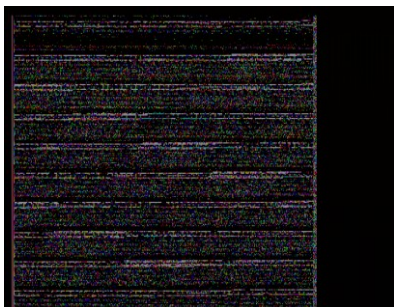

Figure 9: The visual appearance of the data for a firmware update
The firmware of the D520 can be updated through the Amiga. The data is encoded in a sequence of images and is transmitted through the video interface to the D520. When executed on the Amiga a flickering version of an image as shown in Figure 9 will appear.
1. Boot the update-ADF and wait until a flickering image as in Figure 9 appears